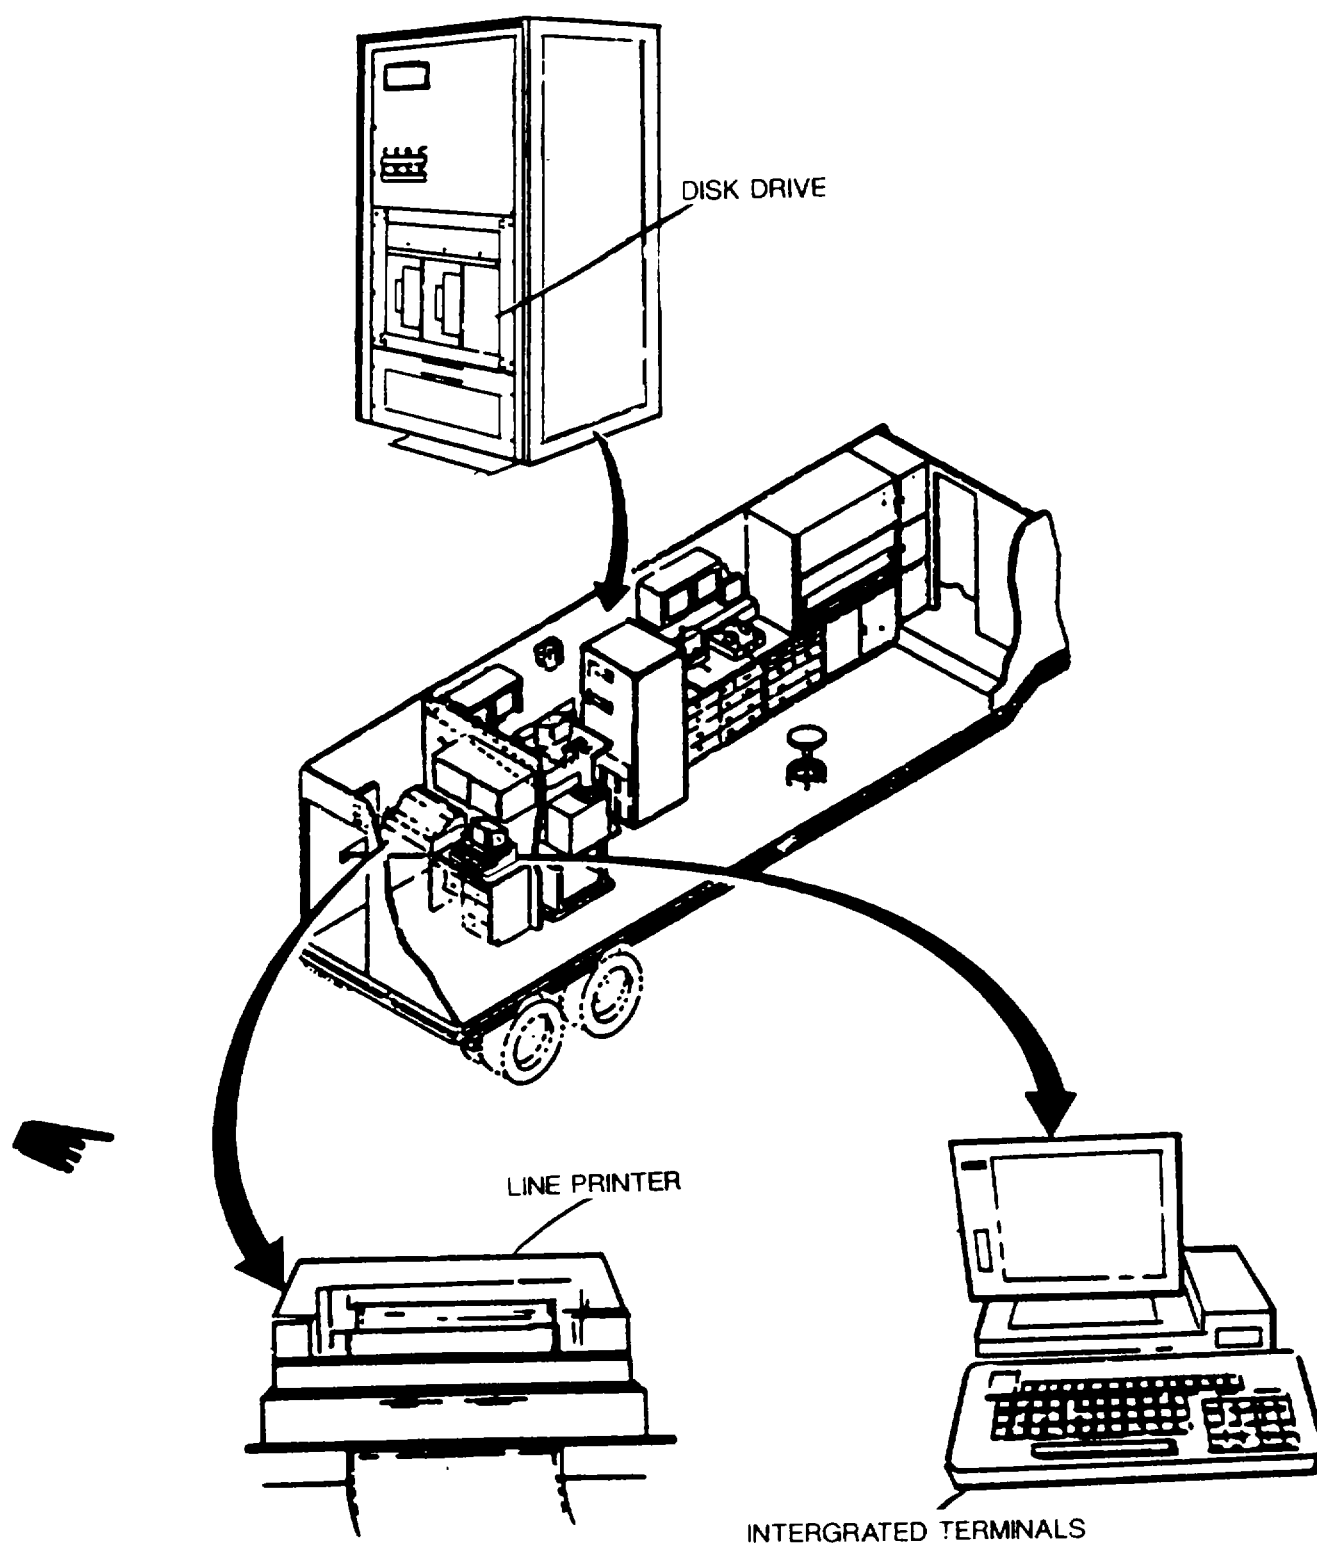

Figure 1-9. The AOAP Standard Data System (SDS)
b. *The AOAP Standard Data System (SDS) (Figure 1-9).* The information generated from the spectrometer can be displayed on the numerical LED indicators or printed out by the autoprinter interface which is used by the AOAP Standard Data System (SDS). The AOAP SDS is comprised of the following modular components: